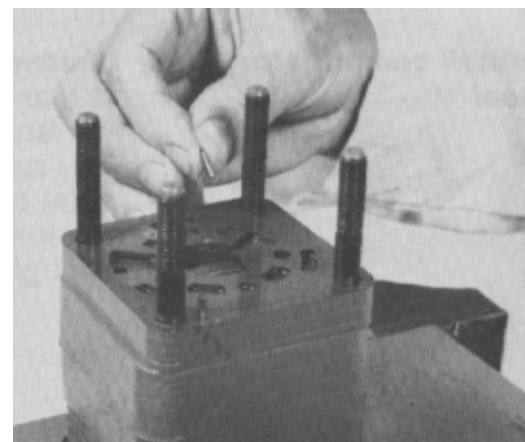

Figure 114
33. Install two alignment pins into the isolation manifold (Fig. 114).